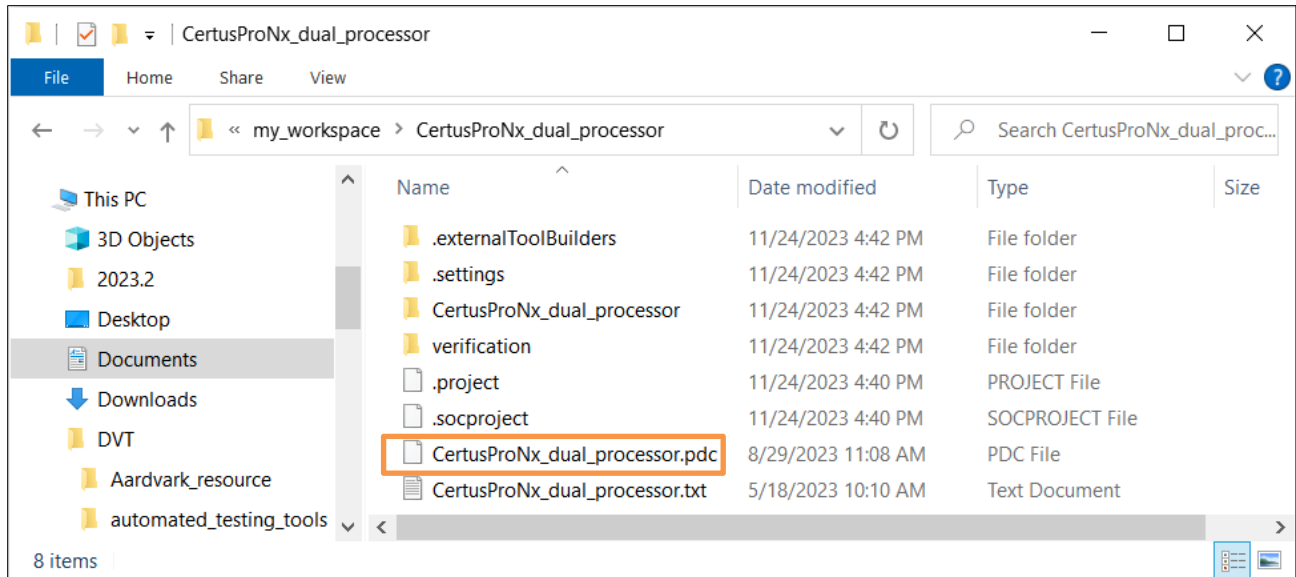

Figure 5.7. Lattice Radiant Constraint File in Source Project
- If the SoC is at the board level, copy the Lattice Radiant constraint file from the source project (Figure 5.7).